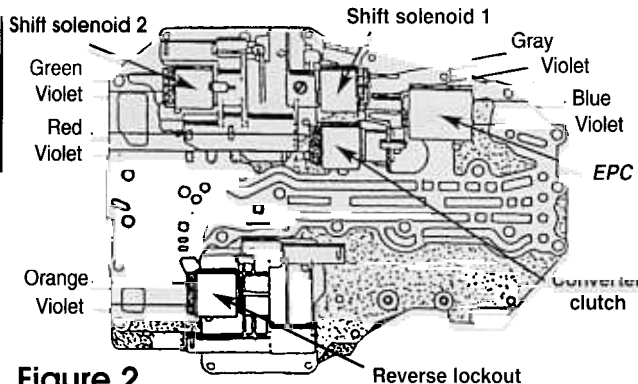

Figure 2
5. To Install: Install Teckpak/Fitzall solenoids (**Figure 2**). Use large connector for two wires, and use small connector for one wire. Reinstall pressure control solenoid housing to valve body. Cut wires on harness to achieve a proper wire length.